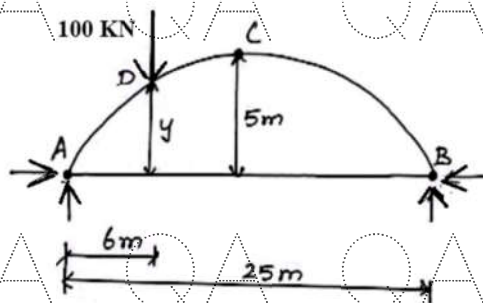

Figure 5
6. A circular (three hinged) arch of span 25 m with a central rise of 5 m is hinged at the crown and the end supports. It carries a point load of 100 kN at 6 m from the left support. Calculate a) The reaction at the supports and b) Moment at 5 m from the left support. (As shown in figure 5). [10]